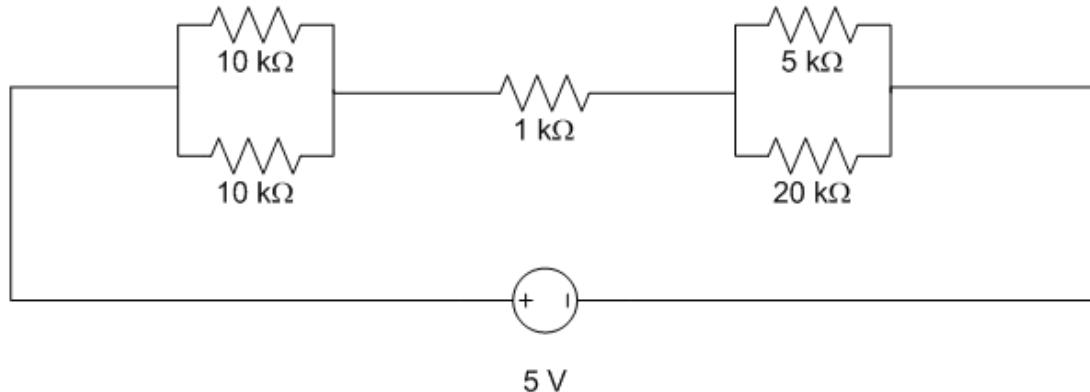

Figure 7: Second Circuit to Simulate
24. Build and wire the circuit shown in Figure 7 using virtual resistors.